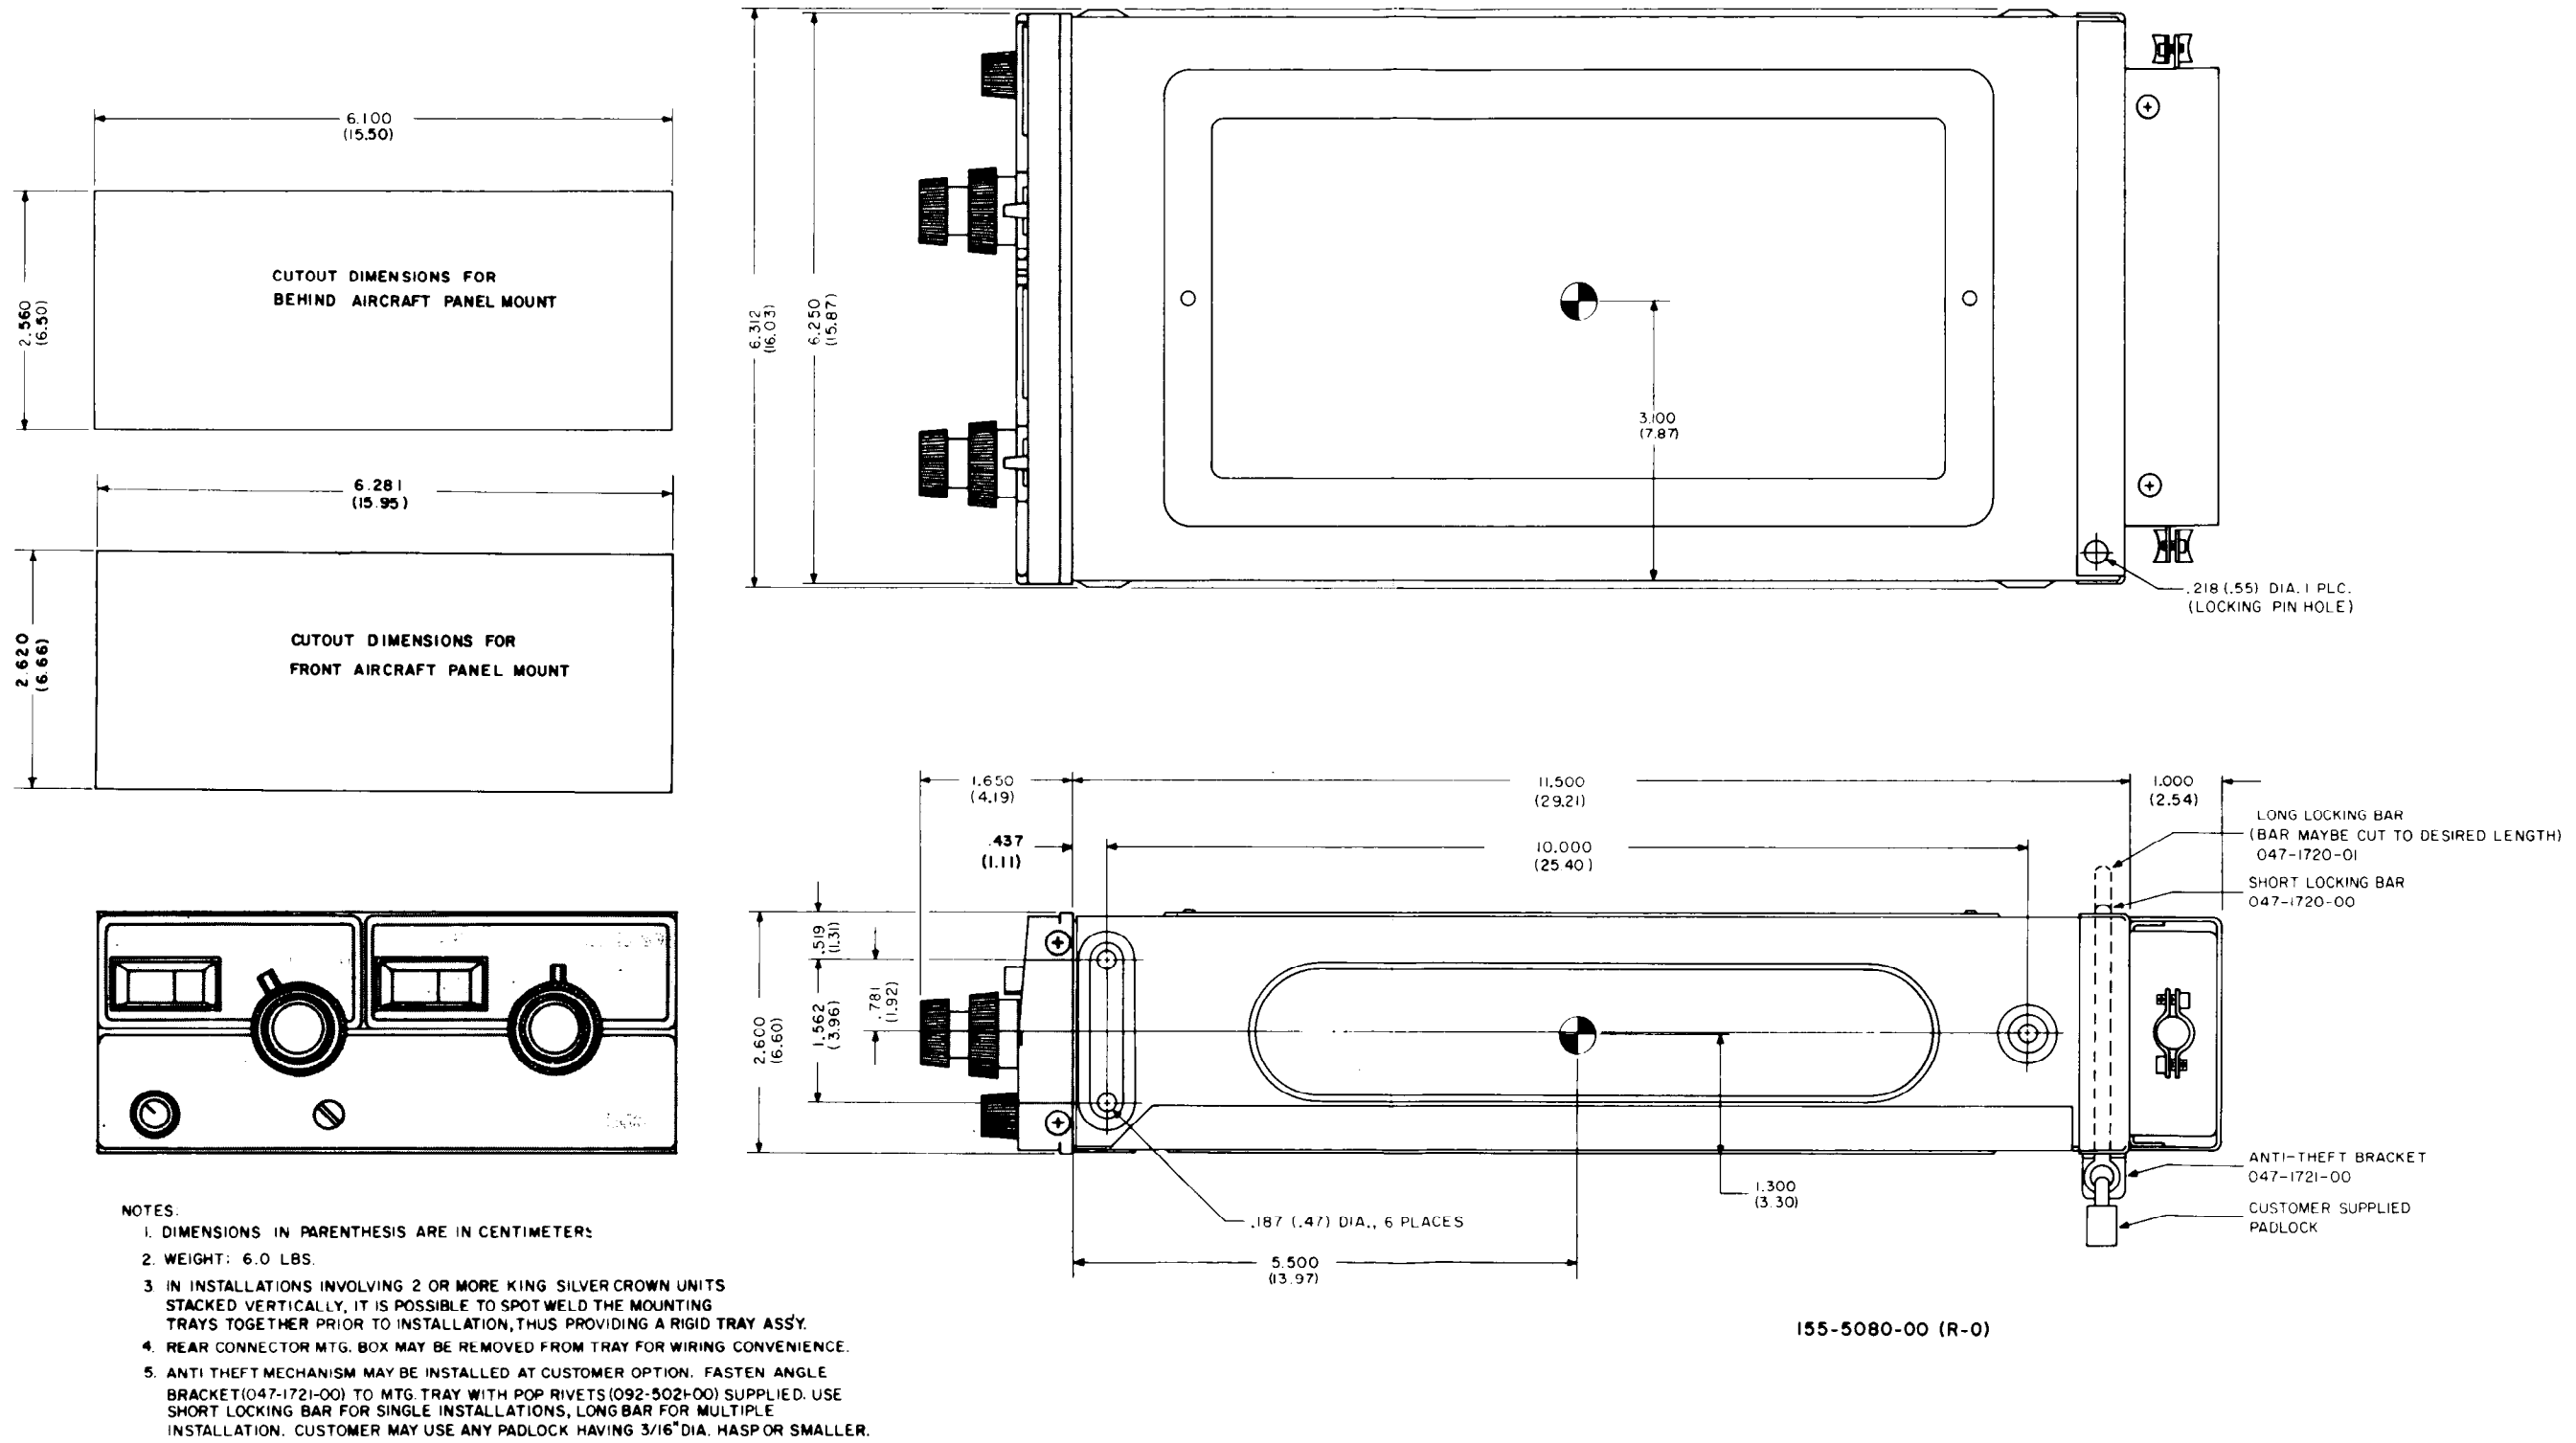

FIGURE 2-4 KY 195 OUTLINE AND MOUNTING DRAWING
- (a) The KY 195 is mounted rigid in the aircraft panel. Mark and cut the mounting hole as shown in Figure 2-4. The purpose of the "behind aircraft panel mount cutout is to allow a margin of error in cutout size and prevent the mounting tray front edge from being visible. The mounting tray bottom lip should extend through the mounting hole flush with the instrument panel to insure proper plug pin engagement.
- (d) Secure the mounting rack to instrument panel per Figure 2-4. The rear mounting bosses should be attached to the airframe by means of support brackets.
Installation consists of riveting the bracket to the mounting tray as shown in Figure 2-4. After the radio installation is complete, the locking bar may be inserted and a small padlock affixed to deter theft.